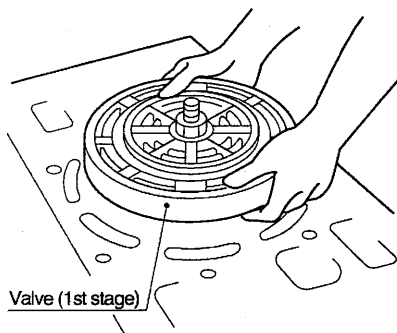

Fig. 28
- * Remove the valve (1st stage), suction valve (2nd stage) and delivery valve (2nd stage). (Figs. 28 and 29)